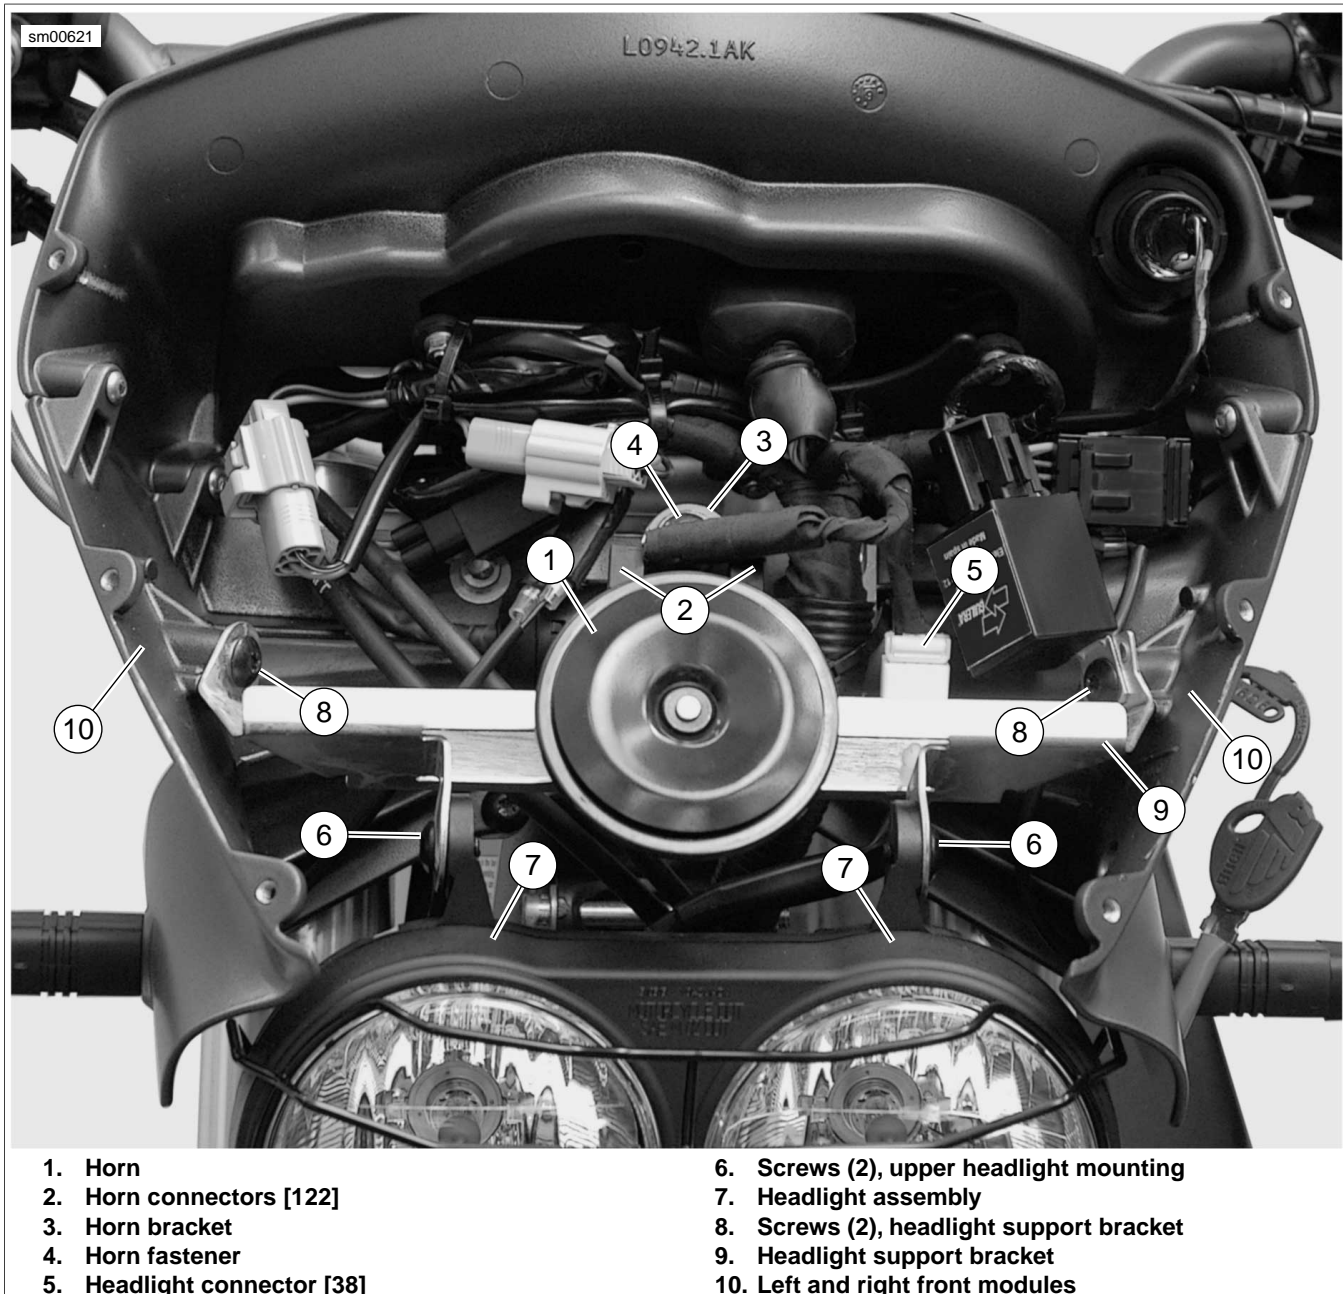

Figure 2-143. Headlight and Support Bracket: Ulysses
- b. **For Ulysses:** See Figure 2-143.
2. Apply LOCTITE 271 (red) and install screws (8) securing headlight support bracket/turn signal flasher to left and right front modules (10) and tighten to 48-72 **in-lbs** (5.4-8 Nm).
- a. Install headlight assembly (7) into headlight support bracket (9).
- b. Install both upper headlight fasteners (6) but do not tighten.
5. Connect headlight connector [38] (5).
6. Install horn (1) and tighten fastener (4) to 36-60 **in-lbs** (4-7 Nm).
7. Connect horn connectors [122] (2).